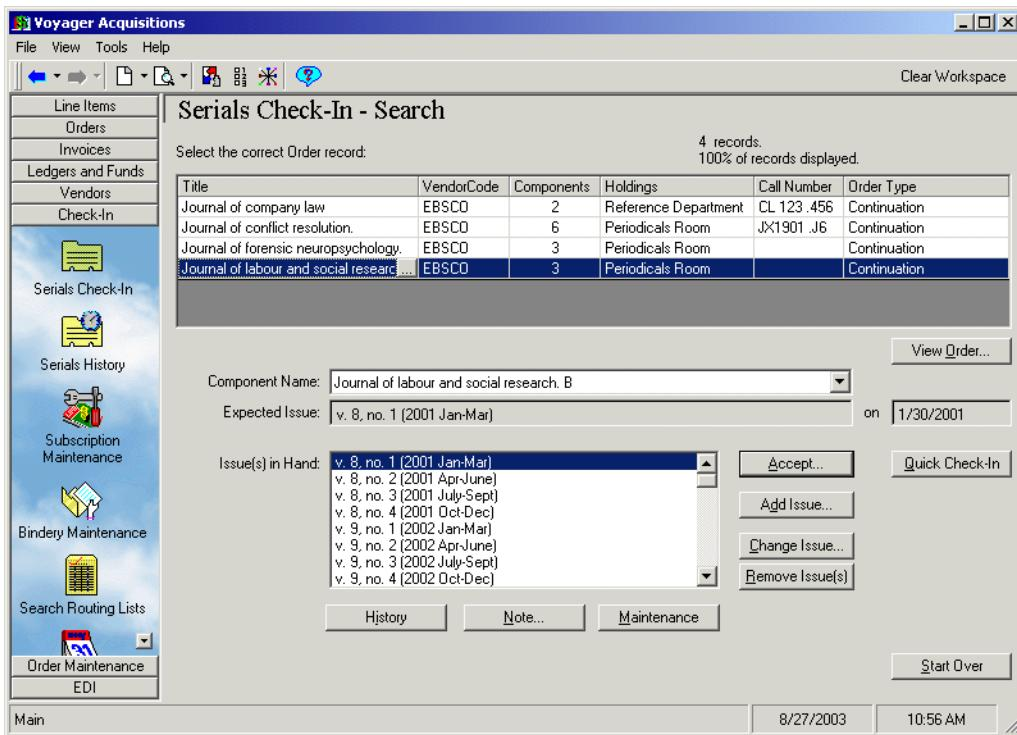

Figure 13-6. Serials Check-In work space- ellipsis displayed in the Title column of the list of records
- The **ellipsis** button in the Title column (Figure 13-6) of the list of records that displays after searching for records in Serials Check-In. See Checking In Serials on page 9-4.
- The **ellipsis** button beside the **Title** field at the top of the **Serials Check-In - Receive/Mark** work space (Figure 13-6), which displays after clicking the **Accept** button on the Serials Check-In screen. See Figure 9-6 on page 9-10 for more information about the **Serials Check-In - Receive/Mark** work space.